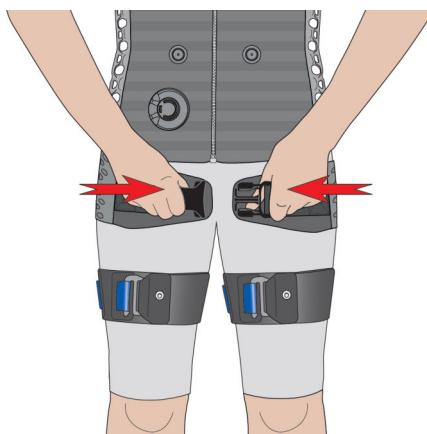

Fig. 51: Securing the i-body® belt
**23.** ► Secure the i-body® belt with the release buckle (Fig. 51).